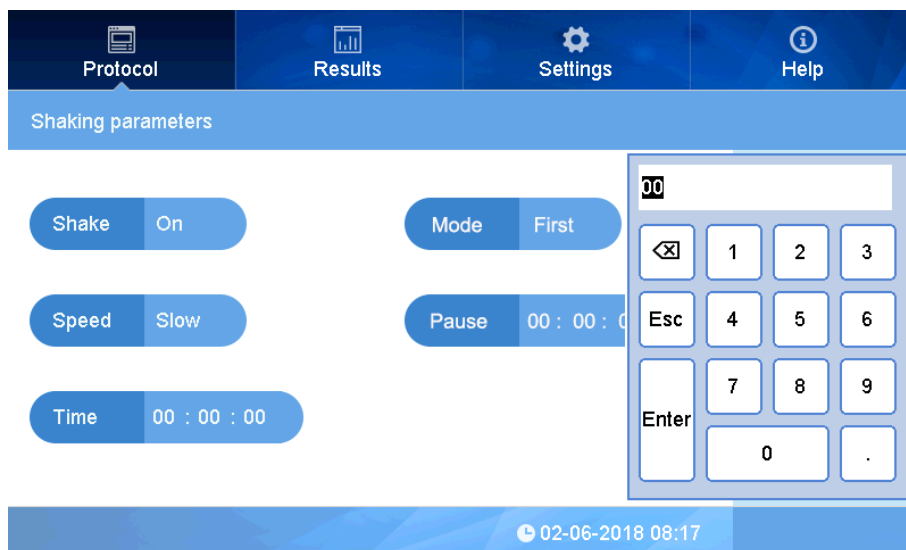

Fig 25
- ④ Click “Time” to set the shaking time, input numbers to set HH/MM/SS, See Fig 25